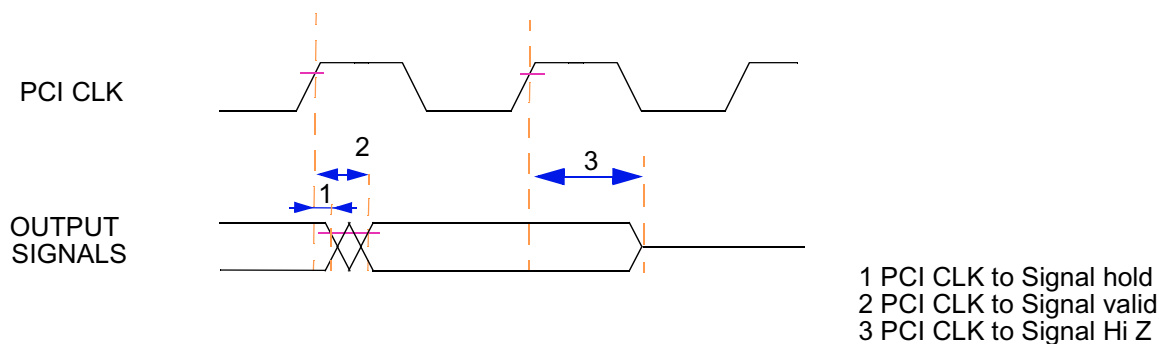

Figure 10 Output Signals Timing
- For understanding the different hold/valid/assertion/negation times refer to Figure 10.
For understanding the different hold/valid/assertion/negation times refer to Figure 10.